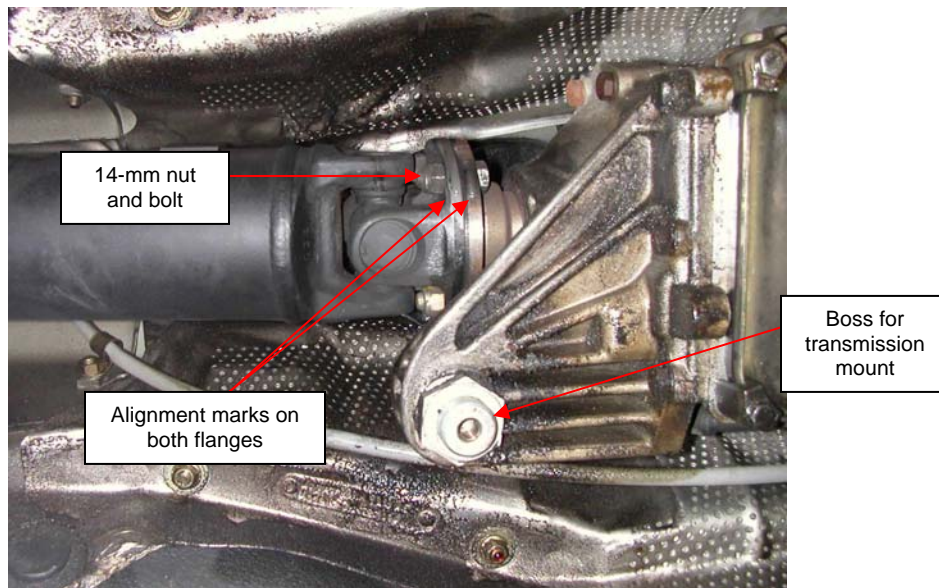

Fig. 8 Connection of prop-shaft flange to output flange
- a. Mark the radial location of the transmission output-shaft flange and the prop-shaft flange using a center punch (see Fig. 8).